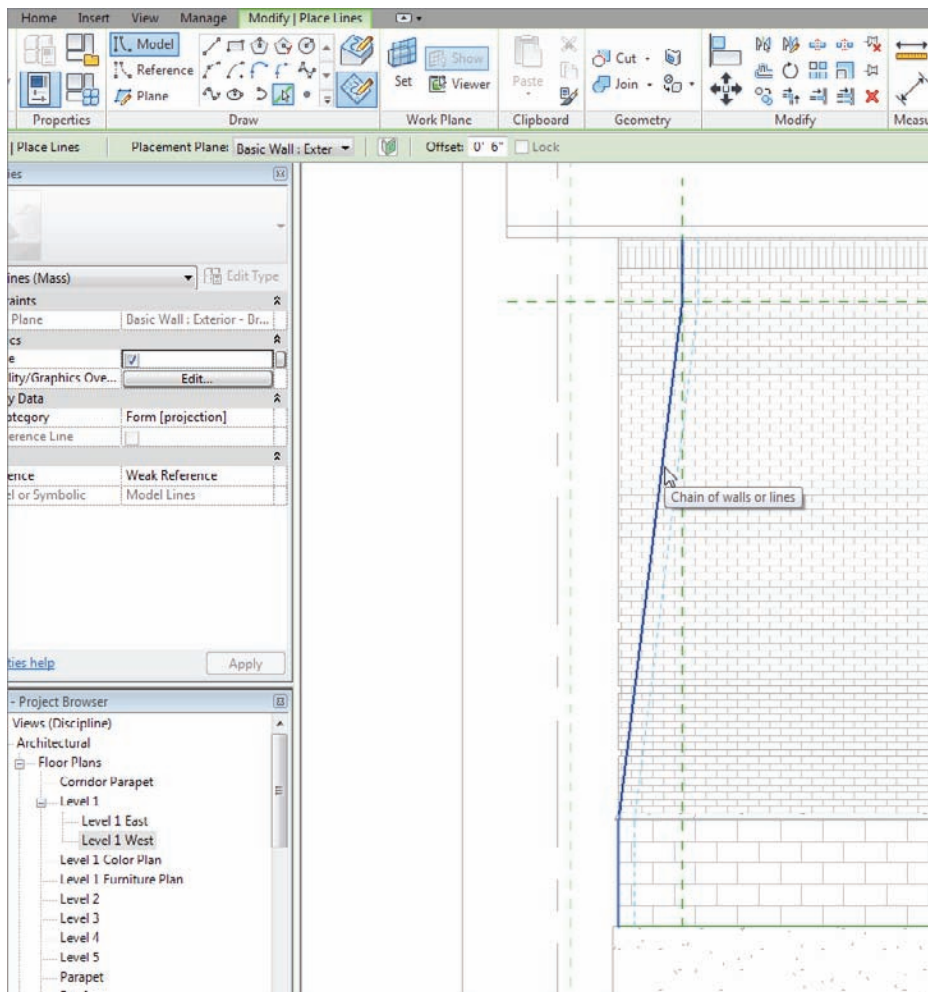

FIGURE 16.44 Creating the thickness
12. Offset the three lines to the right, as shown in Figure 16.44.